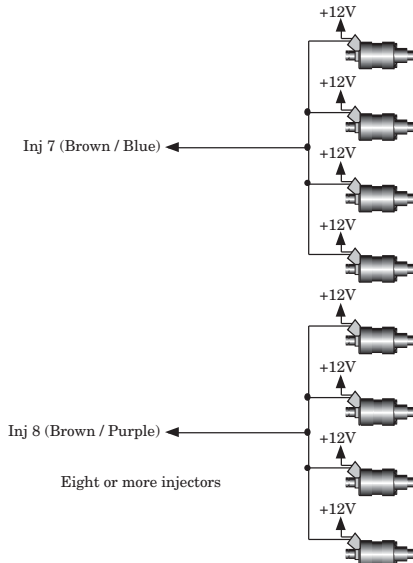

Figure 3.2. Group Fire wiring for 8 or more cylinders
- For an 8-cylinder engine and above the injectors **MUST** be wired in two groups as shown in Figure 3.2. An 8-cylinder engine for example should use 2 groups of 4 injectors, a 12-cylinder engine should use 2 groups each containing 6 injectors.